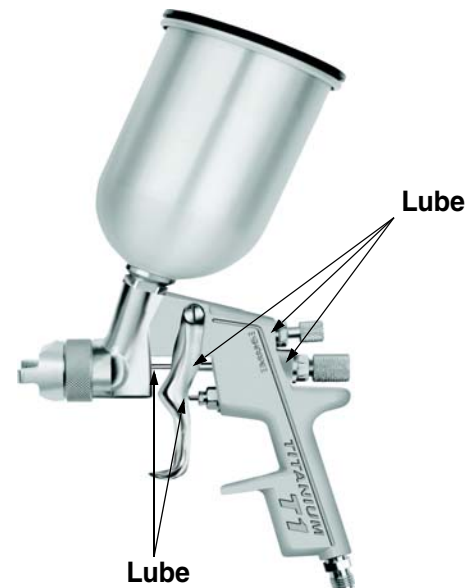

FIG. 2
- Frequently lubricate the gun moving parts with a drop of non-silicone oil (part no. 8255). See FIG. 2.